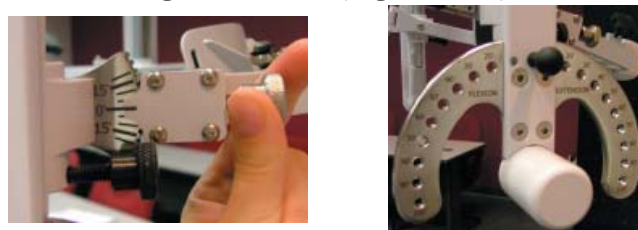

Figure 6-74. Set halo angles
Step 10. Set the halo to 0 degrees with respect to the horizontal. Make sure the flexion/extension angle is set to 0 degrees as well (Figure 6-74).